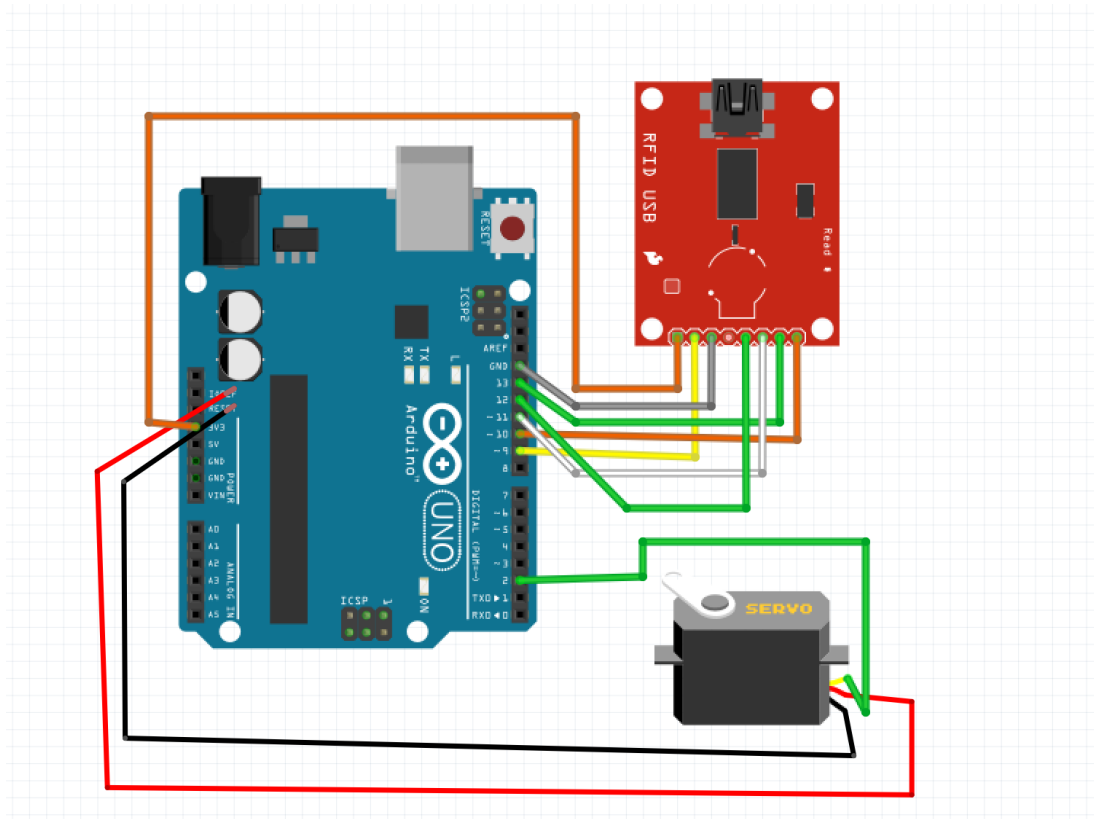

Figure 9: wiring diagram of Arduino uno with RFID reader and servo near the main entrance
2. The RFID connections are as follows, SDA - 10, SCK - 13, MOSI - 11, MISO - 12, GND - GND, RST - 9, VCC - 3.3V. The colours of the wiring is shown in the Figure 9